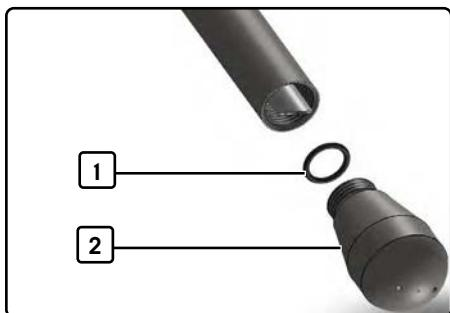

Fig. 8 Steam wand nozzle, removed
2. Unscrew the nozzle (2, Fig. 8) of the steam wand by hand and place it to the side.
4. Screw the nozzle and gasket (1, Fig. 8) back on.